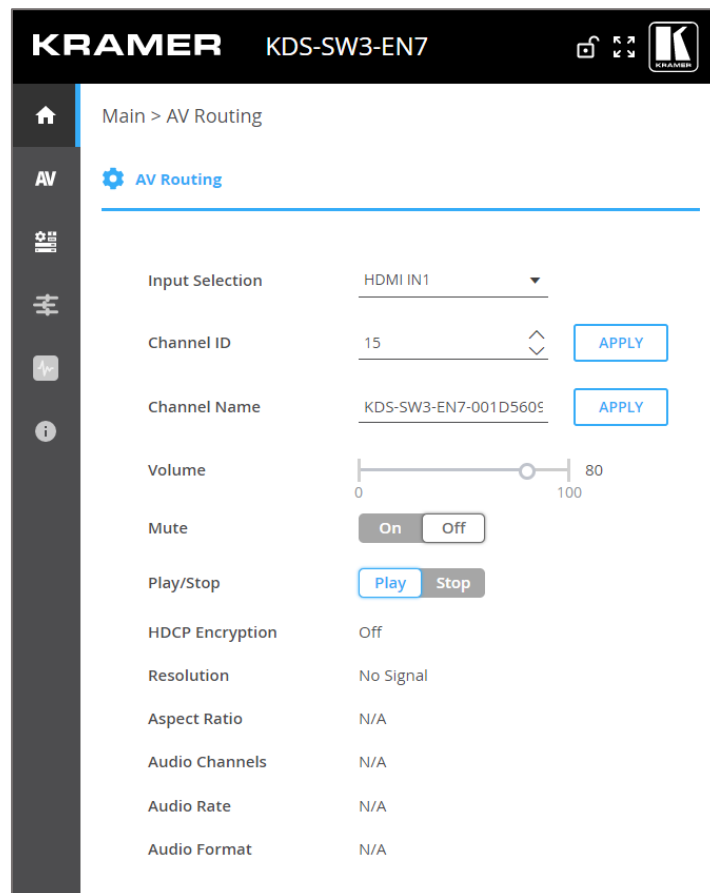

Figure 12: Embedded web pages – Home page
1. In the Navigation pane, Select **Main>AV Routing**. The AV Routing page appears (see Figure 12).